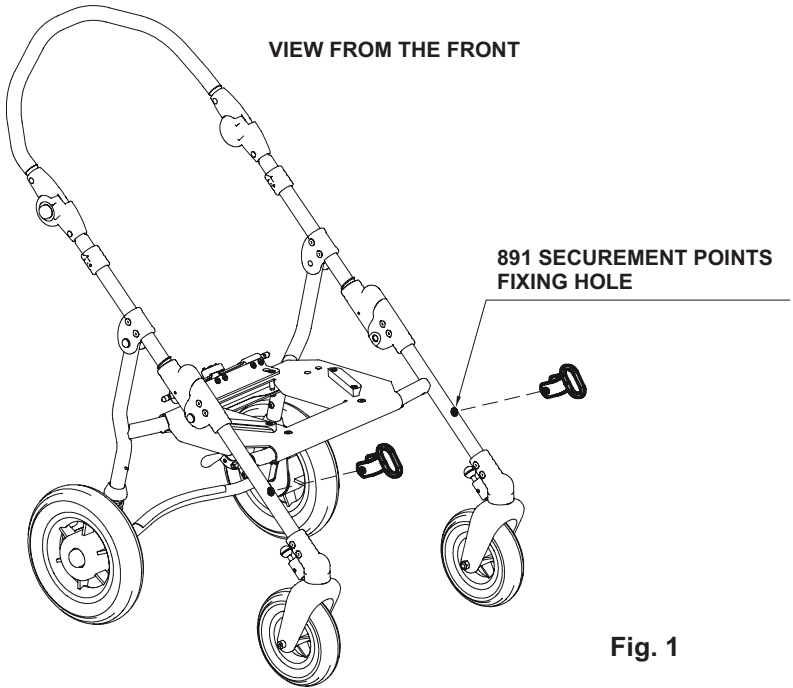

Fig. 1
- **THE STROLLER MUST BE ANCHORED TO THE MOTOR VEHICLE WITH THE BACKREST AND THE LEGREST IN THE UPRIGHT POSITION** by: 1) a four-point strap-type tie down system that complies with ISO 10542-2, supplied by the vehicle and 2) our accessory 891 - set of 4 tie-down hooks (see fig. 1 and 2, page 14; fig. 3, page 15 and fig. 4, page 16)